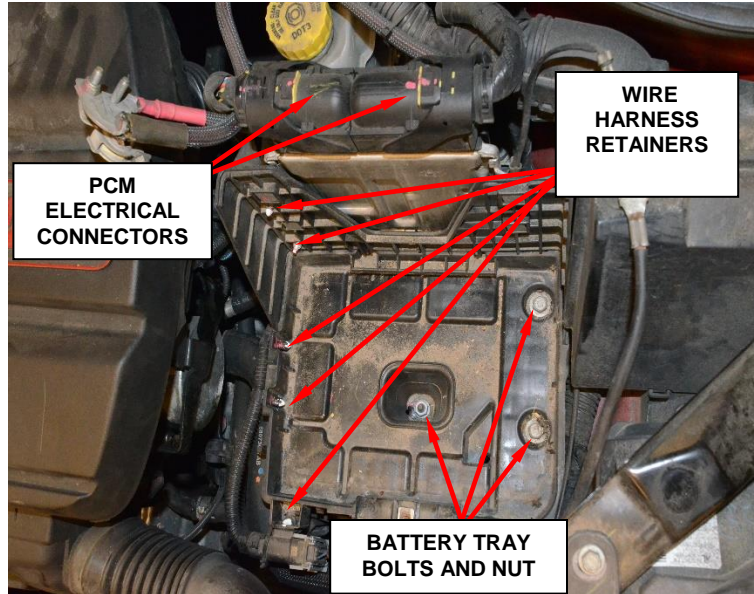

Figure 3 – Battery Tray
11. Disconnect the powertrain control module (PCM) electrical connectors (Figure 3).
12. Disengage wire harness retainers from the battery tray (Figure 3).
13. Remove the two bolts and nut attaching the battery tray (Figure 3).
24. Reattach all the wiring harness retainers to the battery tray (Figure 3).
25. Align the battery tray in place and install the nut and two bolts. Tighten all three fasteners to 25 N·m (18 ft. lbs.) (Figure 3).